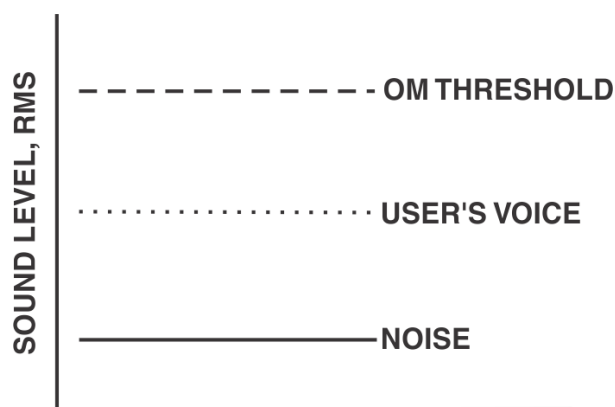
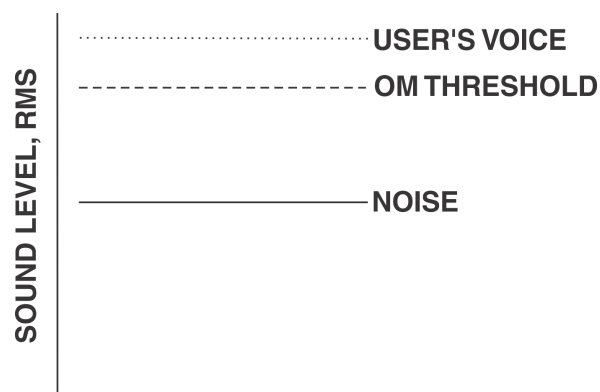

FIGURE 40. Low Noise Environment Microphone Gain Set Correctly
FIGURE 41. High Noise Environment Microphone Gain Set Too High
The microphone gain controls on the base station and beltpack are set to mid-levels by the factory. In most cases this setting will work fine and only on loud speech will the over-modulation (OM) indicator light. However, in environments where the background noise is loud or the user has a strong/quiet voice, the gain control will need to be adjusted. In Figure 40 the gain is set correctly. The user's root-mean-square (RMS) sound level is well below the OM threshold and only on peaks does his or her voice flash the OM indicator light.
Figure 41 displays the same gain setting as in Figure 40 but brought into a high noise environment. The user's voice now lights the OM indicator all the time he or she speaks due to the higher noise plus the user speaking louder. The result on the